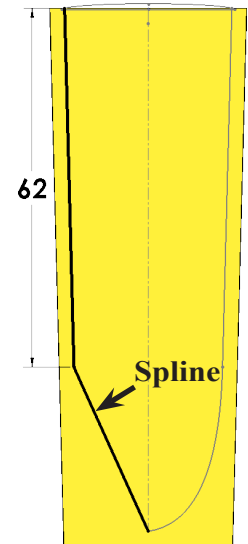

Fig. 47
Step 11. Click **Spline**  (S) on the Sketch toolbar.
Step 12. Draw **two point** spline between bottom endpoint of line and bottom endpoint of centerline line, **Fig. 47.** **Right click drawing and click End spline** from menu.